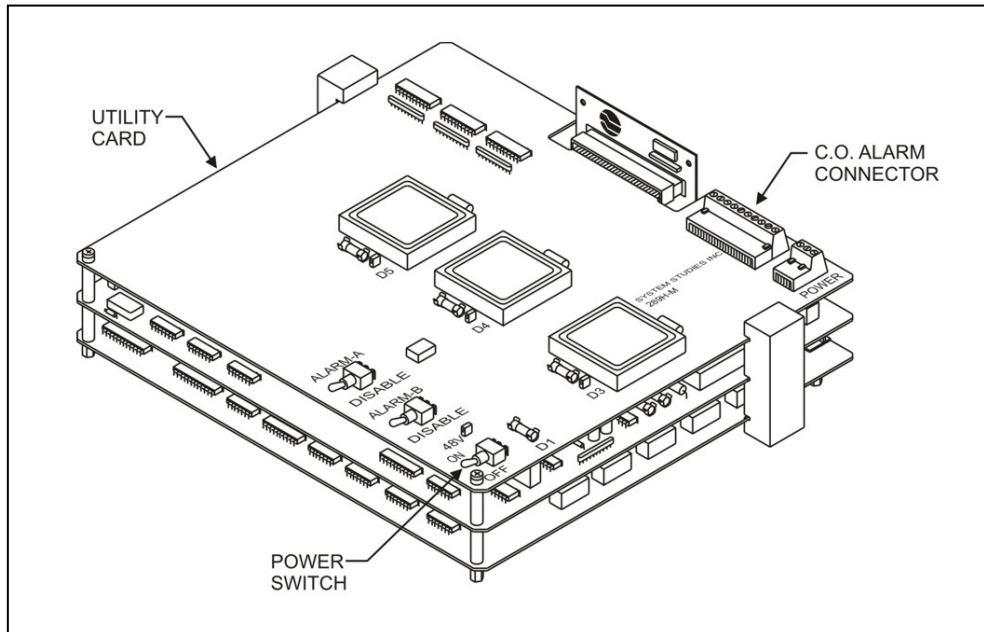

FIGURE 3-2: 289H-M POWER SWITCH
3. Loosen the cover screws on the front of the monitor and remove the cover by sliding it toward you. The top card in the chassis is the Utility Card. Locate the power switch in the front right corner (see FIGURE 3-2). Make sure that the power switch on this card is in the OFF position. Please note that the Utility Card shown in FIGURE 3-2 is the older, “non-tone” version, but the power switch on both cards is located on the front right corner of the card.
3. Find and remove the power connection block on the 289H Utility Card. This small green or black rectangular block is located on the back right corner of the card, as viewed from the top of the 289H-M chassis (see FIGURES 3-2 and 3-3).